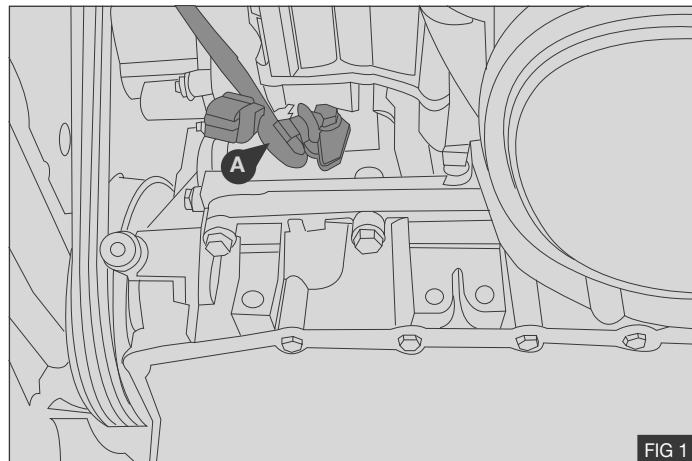

FIG 1
3. Remove the wiring loom and support bracket **(A)** from the engine block and secure.- Fig 1